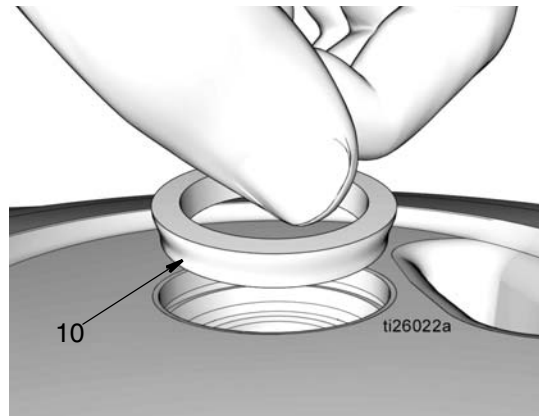

FIG. 40
- i. Install the tapered spacer (10), tapered side facing down as shown in FIG. 40.